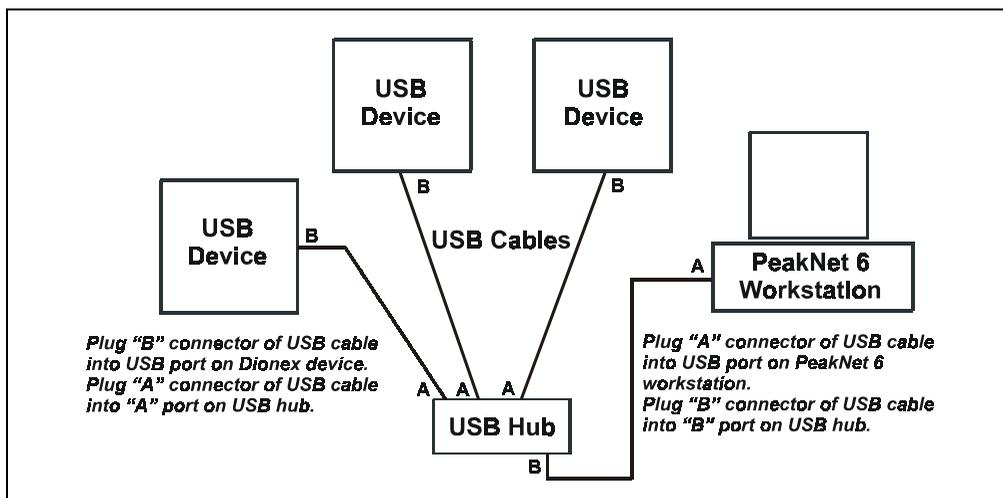

Figure 2-2. Example Connections: Three USB Devices to an External USB Hub
1. Plug the “A” connector of a USB A-B cable into a port on the USB hub. Plug the “B” connector of the cable into the USB port on the Dionex device (see Figure 2-2).
3. Plug the “A” connector of a USB A-B cable into a USB port on the computer (see Figure 2-2). Plug the “B” connector of the cable into a port on the USB hub.